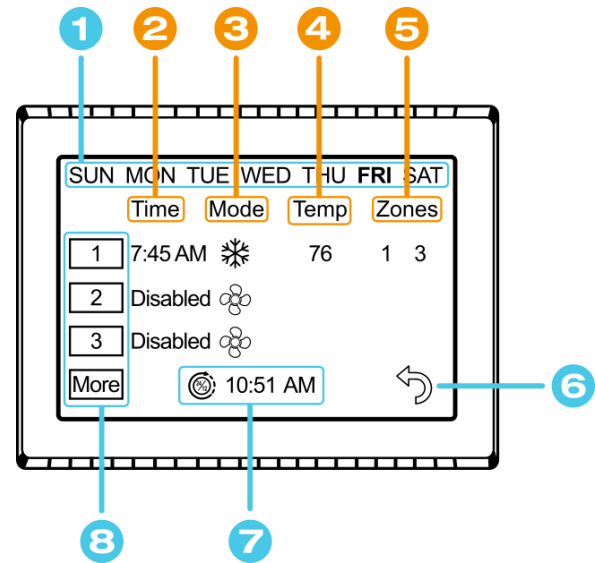
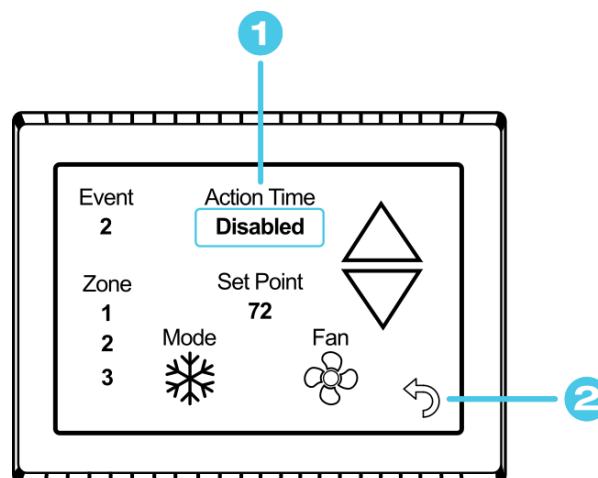
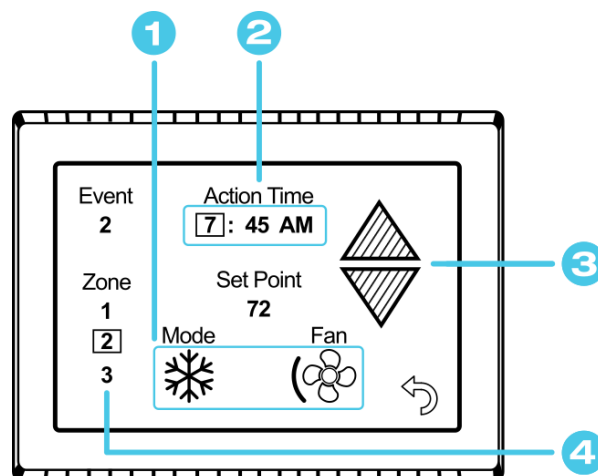

Figure 5 - Main Schedule Screen
Figure 6 - Schedule Edit Screen (Disabled Event)
Figure 7 - Schedule Edit Screen (Enabled Event)
The schedule supports 7 day per week scheduling of events. Events can include changes to the set point or mode of operation for one or more zones. Each numbered row is an event that can be configured. *Figure 5* shows the main schedule screen. Tap the “Schedule” button from the *Settings Screens* to enter.
Events are numbered 1 to 6 along the left side of the screen. Each row is a numbered event. Tap an event to edit it and advance to the schedule edit screen, shown in Figure 6. Tap “More” to see events 4, 5, and 6.
*Figure 6* shows the edit screen when an event is tapped as shown in *(8) Scheduled Events* of *Figure 5 - Main Schedule Screen*. The event time on the main schedule screen and Action Time in the edit schedule screen will show disabled until a time is set. Tap “Disabled” (1) at the top of the screen to show a gray box around the Action Time to select it. The up and down arrows change to full color once a selection is made. Use the arrows to make a change to what is selected. Use the back arrow (2) to save any changes and leave the screen.
*Figure 7* shows the schedule edit screen once a valid time is set for the event.
4. **Zoned systems only:** Tap the zone number to enable/disable the zone you want this event to affect. A green box will draw around zones the event is enabled for. Events for Single zone EasyTouch RV models will always be enabled when the Action Time (2) is set.
1. Tap the edit schedule button as described in the *Schedule – Edit, Enable or Disable* section in settings to enter the main schedule screen, shown by *Figure 5*.
2. Ensure that a valid *(7) System Time* is shown. Tap the day you want to set up a schedule for, then the event you want to edit, all shown by *Figure 5*. Tapping the event will take you to the edit schedule screen, shown by *Figure 6* and *Figure 7*.
5. Tap the back button once again to return to the settings screen. Activate the schedule by pressing the schedule button with the “Enabled/Disabled” subtext as described in the *Schedule – Edit, Enable or Disable* section in settings. When enabled, it may also be noted on the *(11) Info Screen*, under the *Main Screen*.